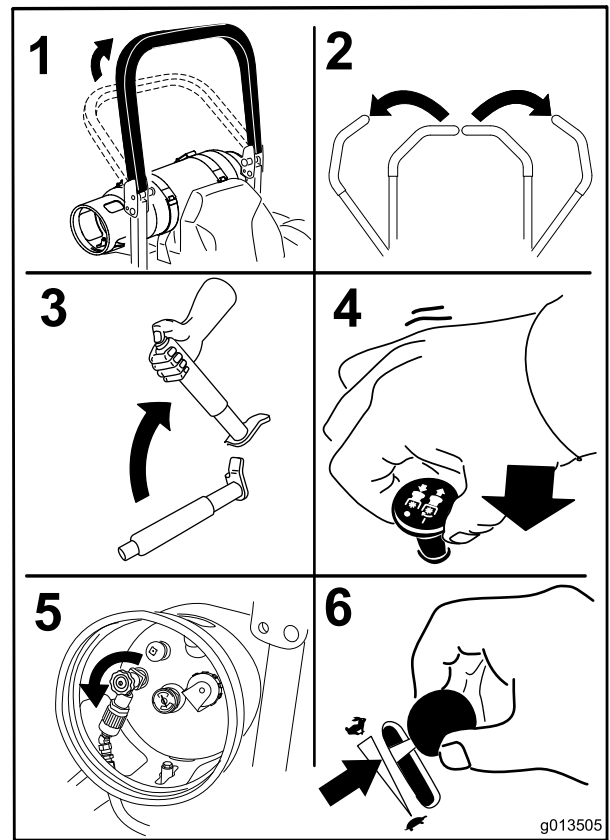

Figure 18
5. Move the blade control switch (PTO) to the Off position (Figure 18).
6. Move the throttle lever to the 3/4 throttle position between the Slow and Fast positions (Figure 18).